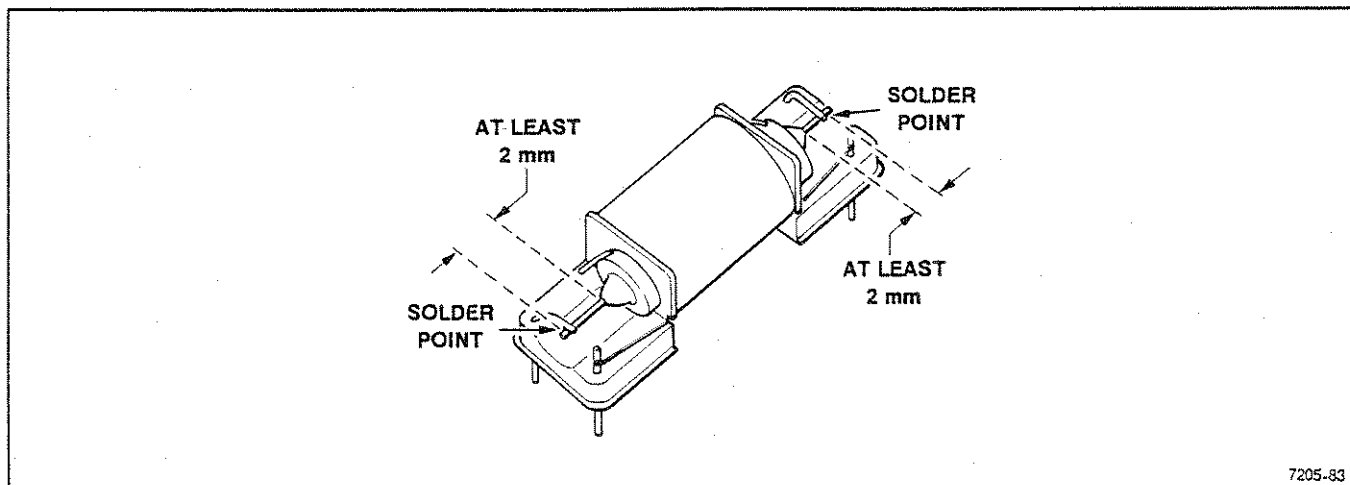

Fig. 3-2 Special soldering techniques for reed relay
1. Leave at least 2mm interval from an end of the switch body to a soldering point. See Figure 3-2.
3. Solder one point within three (3) seconds.